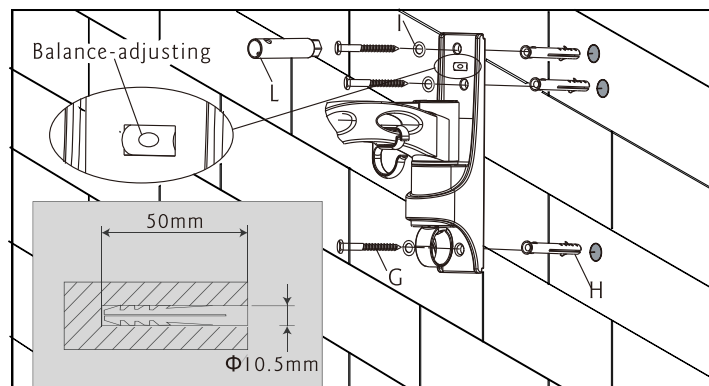

Fig 2
Put the wall mount flatly in the installing position, using it as template, lining out the hole on the wall. Use a aiguille of dia. 10.5mm to drill three 50mm deep holes. Insert the wall anchor(H) into the mounting holes, and lightly tap them flush to the wall with a hammer. Securely mount the wall plate with supplied Long bolts(G) and washers(I) by Box wrench(L). As shown in Fig2.